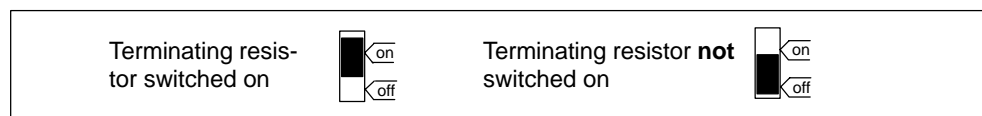

Fig. 7-2 Bus connector (6ES7...): Terminating resistor switched on and switched off
A cable must be terminated with a surge resistor to avoid faults as a result of reflected interference on the line. For this, activate the terminating resistor at the first and last node of a subnet or a segment (see Fig. 7-2).
3. If the bus connector is at the beginning or end of a segment, you must activate the terminating resistor (switch position "ON") (see Fig. 7-2).